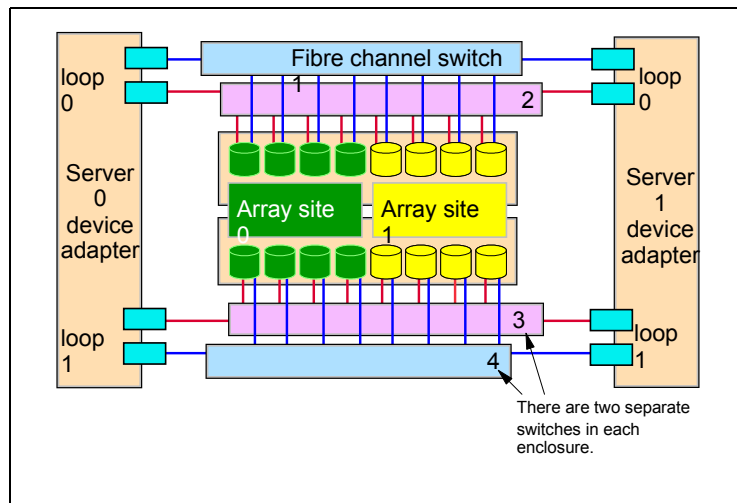

Figure 8-18 Array across loops
The DS8000 implements the concept of Array Across Loops (AAL) which splits each array site into two halves. Half of the site is located on the first disk loop of a device adapter (DA) pair and the other half is located on the second disk loop of that DA pair. It is implemented primarily to maximize performance; however it also provides higher level of redundancy with RAID-10 configurations. This is shown in Figure 8-18.